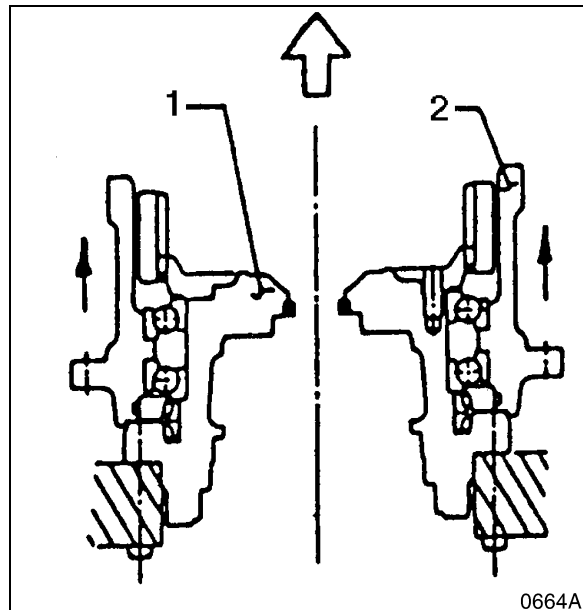

Figure 48
3. The hub (1) and spindle (2) are ready for separation, when fasteners (35) have been removed. Use 12 mm lifting ring bolts (indicated by the position of arrows in Figure 48) to separate the hub and spindle, along with the ball bearing (24), sealing ring (23), O-ring (40), floating seal (31A), ring (15), and spacer (or "distance piece," [12]), with the coupling gear (8) and inner ring gear (5, ring gear B).